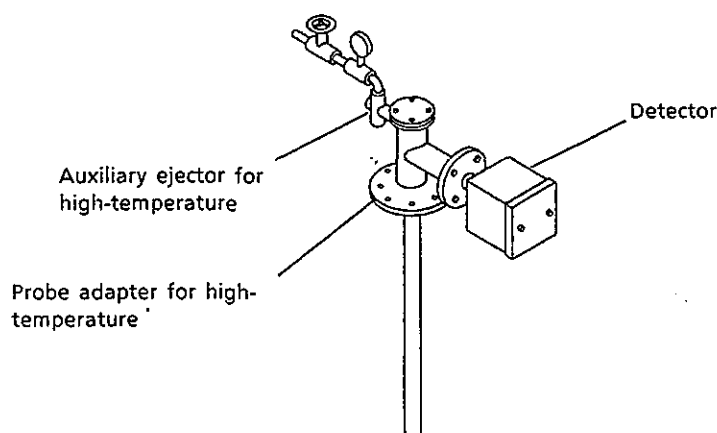

Figure 4.3 Connecting the Auxiliary Ejector
- If a high-temperature detector is used and the gas to be analyzed is under negative pressure, connect the auxiliary ejector to the sample gas exhaust hole of the high-temperature probe adapter (see Section 4.1.4, Figure 4.3).
If the gas to be analyzed is under negative pressure, connect the auxiliary ejector as illustrated in Figure 4.3. Mount the pressure gauge in the vicinity of the auxiliary ejector. However, if the ambient temperature is too high, mount it in a location with a temperature below 40°C.
- If a high-temperature detector is used and the sample gas is under negative pressure, connect the auxiliary ejector to the sample gas exhaust hole of the high-temperature probe adapter (see Section 4.1.4, Figure 4.3).